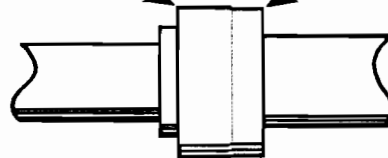

Figure 12
- (2) : **PRESSURE REGULATOR VALVE:** A ground step has been machined to the inner land on the Pressure Regulator Valve causing two different diameters to exist on one land (See Figure 12). There are no obvious or visible signs or identification marks to indicate the updated Pressure Regulator Valve. Careful measurement of the valve land is needed to properly identify the valve (See Figure 12). The spring side of the land measures approximately .6255". The opposite end of the same land will measure approximately .6245" (See Figure 12).